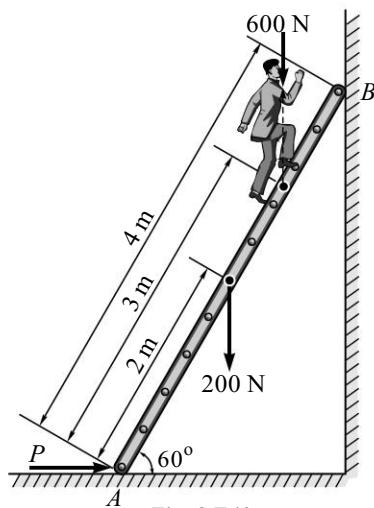

Fig. 8.E40
41. The ladder shown in Fig. 8.E41 is 6 m long and is supported by a horizontal floor and vertical wall. The coefficient of friction between the floor and the ladder is 0.4 and between wall and ladder is 0.25. The weight of ladder is 200 N and may be considered a concentrated at G. The ladder also supports a vertical load of 900 N at C, which is at a distance of 1 m from B. Determine the least value of α at which the ladder may be placed without slipping. Determine the reaction at that